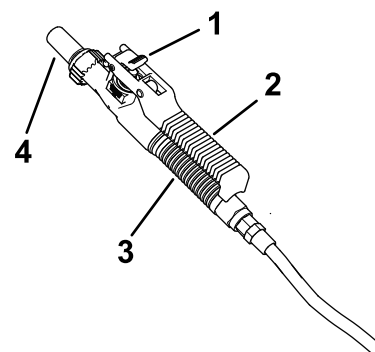

Figure 48
8. When finished spraying, if you locked the trigger of the spray-wand—unlock it, and release the trigger (Figure 48).
7. Squeeze the trigger to the spray-wand handle to begin spraying; lock the trigger in place if desired (Figure 48).